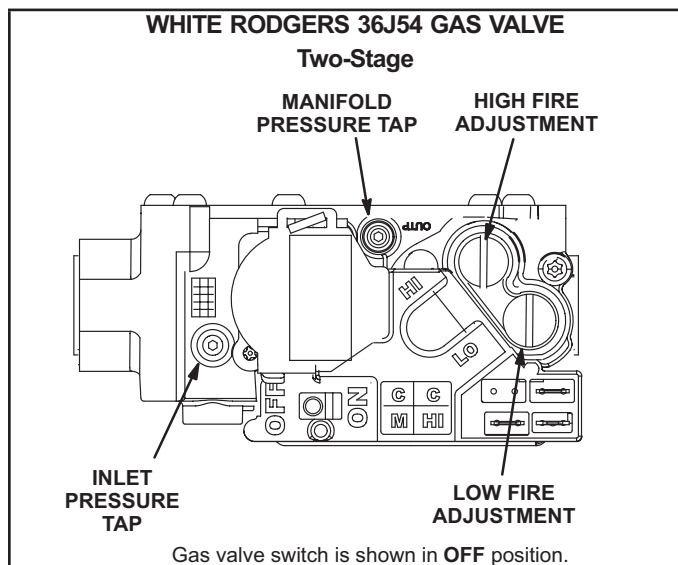

FIGURE 30
Gas Valve Operation (FIGURE 30)
- 5 - Move gas valve switch to **OFF**. See FIGURE 30.
- 6 - Wait five (5) minutes to clear out any gas. If you then smell gas, **STOP!** Immediately call your gas supplier from a neighbor's phone. Follow the gas supplier's instructions. If you do not smell gas, go to the next step.
- 7 - Move gas valve switch to **ON**. See FIGURE 30.